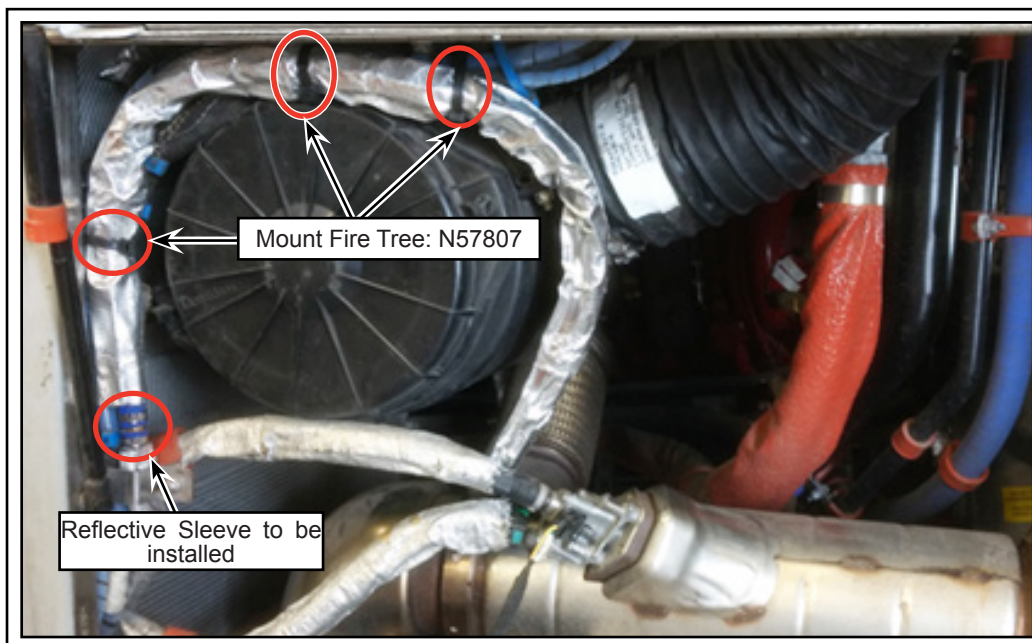

Figure 19 - Installation of Reflective Sleeve
- 1.34. Secure the DEF hose with the mount fire tree fixed on the new brackets (see Figure 19).